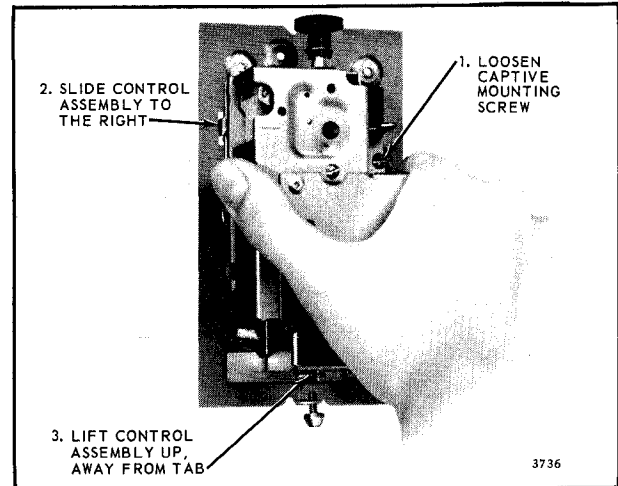

FIG. 3—MOUNTING THE CONTROLLER ON THE BACKPLATE.
2. Attach the H600A to the mounting plate by slipping it under the tabs (Fig. 3) and tightening the captive mounting screw.